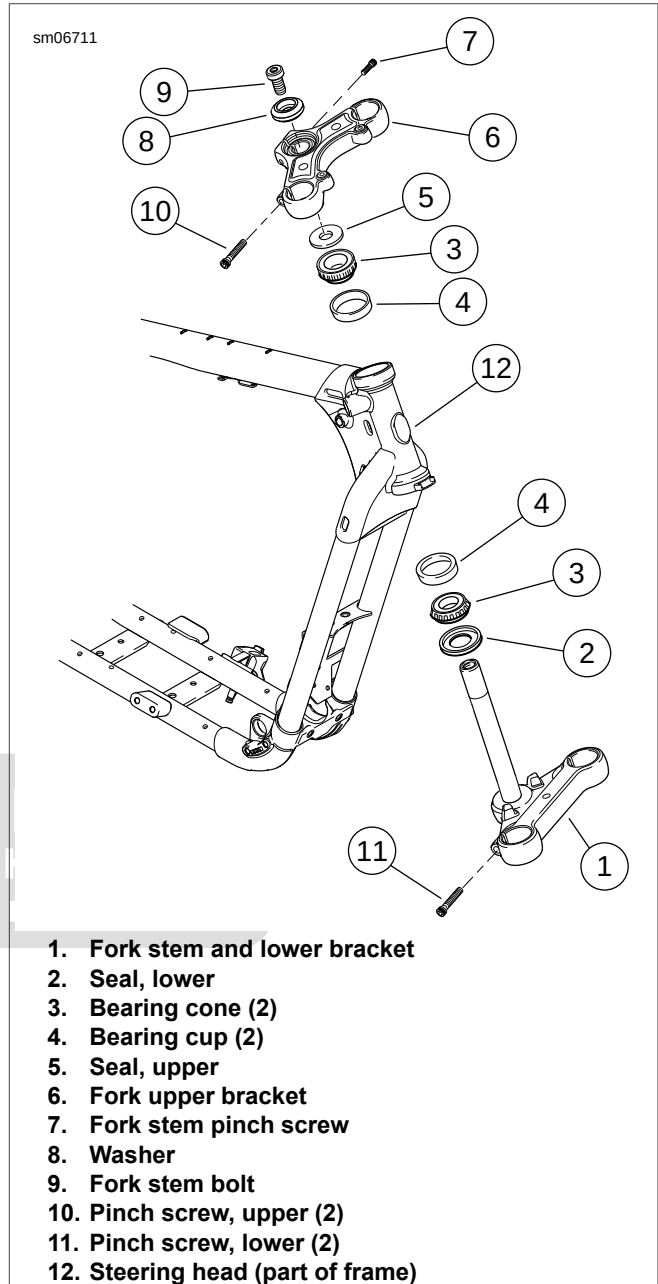

Figure 2-159. Fork Stem and Bracket Assembly: Typical
3. See Figure 2-159. Loosen fork stem pinch screw (7). Remove fork stem bolt (9) and washer (8).
4. Lift handlebar assembly from steering head with fork upper bracket (6) attached. Carefully position assembly out of the way. Exercise caution to avoid damaging control cables, wiring harnesses, clutch cable or brake lines.
1. See Figure 2-159. Clean the seals (2, 5), bearing cones (3), fork stem and lower bracket (1) and steering head (12) with solvent.
2. Inspect fork stem and lower bracket (1). Replace as necessary.
1. See Figure 2-159. If bearing cups (4) were removed, obtain **new** bearings and bearing cups. Install **new** bearing cups into frame steering head using STEERING HEAD BEARING RACE INSTALLATION TOOL (Part No. HD-39302).